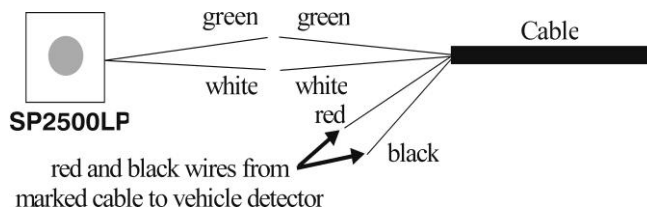

Figure 20. SP2500LP cable connections
- Inside the speaker post or menu board, connect the green and white wires of the appropriate cable to the wires coming from the speaker as shown in Figure 20. Do not connect the drain wire. Solder the connection and cover it with a crimp cap insulator.